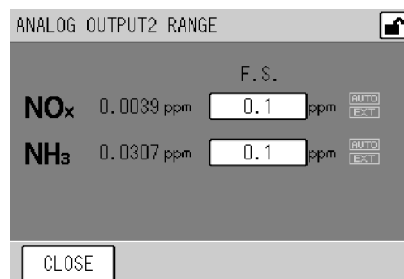

Fig. 65 ANALOG OUTPUT2 RANGE screen
- [ANALOG OUTPUT2 RANGE]: Displays the ANALOG OUTPUT2 RANGE screen (Fig. 65 on page 52).